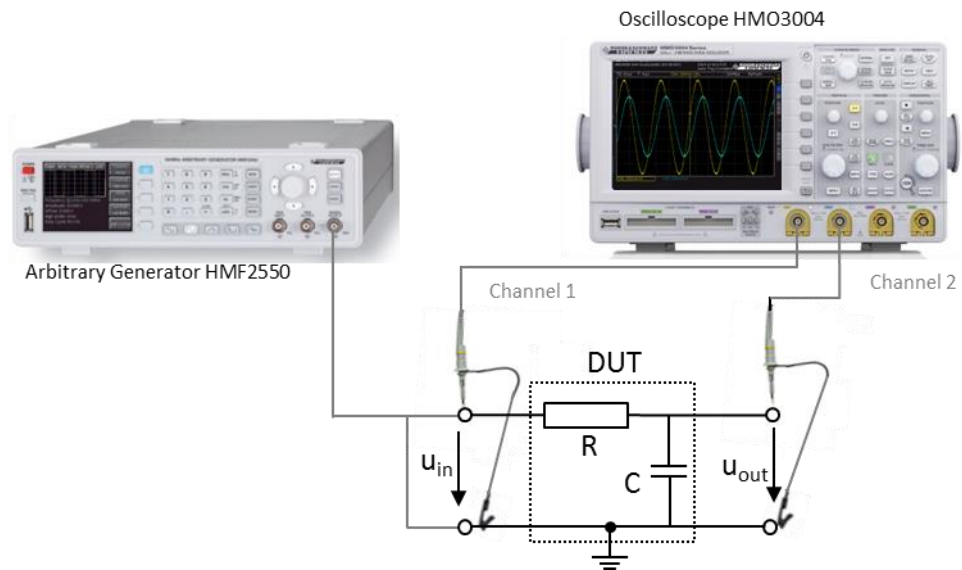

Fig. 2-36: Measuring the filter characteristics using the HMO3004 oscilloscope.
- Connect the signal generator output to the filter input as shown in Fig. 2-36.
- Connect a probe and a ground cable to the filter input as shown in Fig. 2-36. Connect the second probe and ground cable to the output. u_{in} is measured with CH1 and u_{out} with CH2.